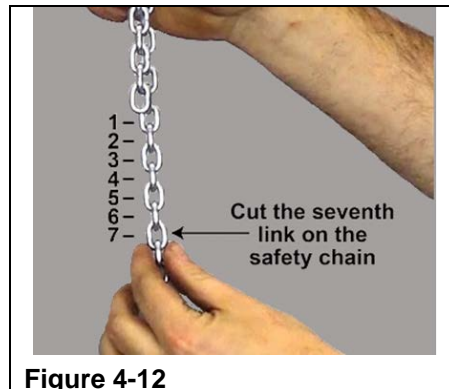

Figure 4-12
- Step 24. Count down seven links from the end of the load chain. Cut the seventh link so the SDS chain is six links longer than the load chain. (Refer to Figure 4-12)